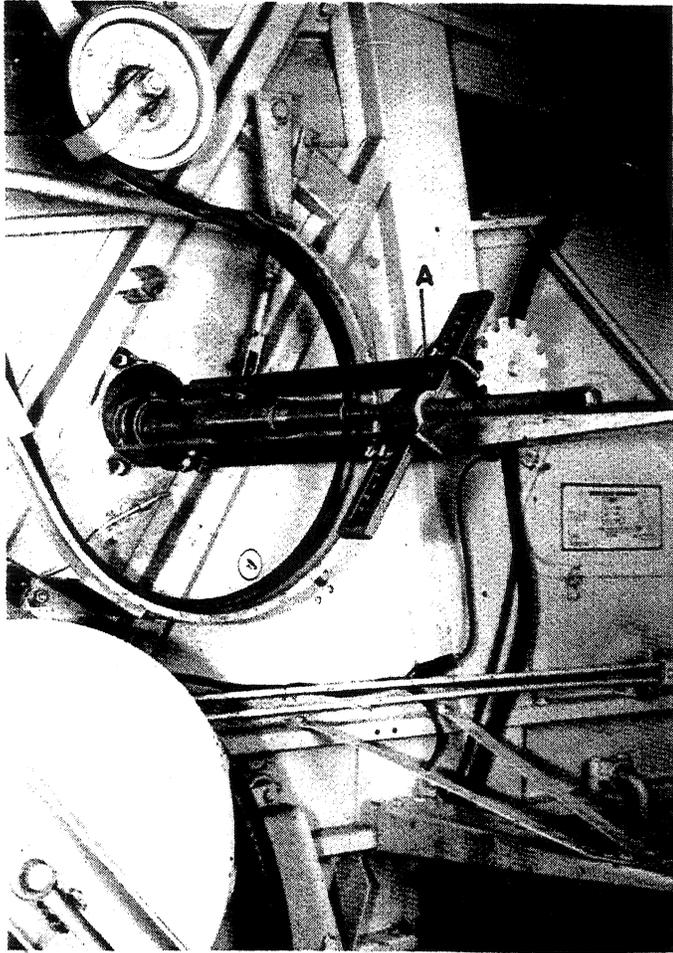

FIGURE 7
When using this puller on style "2" bearing (single-row ball bearing with brass ball retainer), the inner race will usually remain on the shaft. The inner race then can be removed using the puller shown in Figure 7.
LEFT MAIN SHAFT BEARING REMOVAL TOOL (See Figures 7 and 8)
1. To pull the inner race of style "2" bearing (single row ball with brass retainer) as shown in Figure 7.
It is used on TR70 combines on and below serial number 293162. Install the puller as shown in Figures 7 and 8.
The puller, A, Figure 7, is a "Proto" brand puller consisting of: